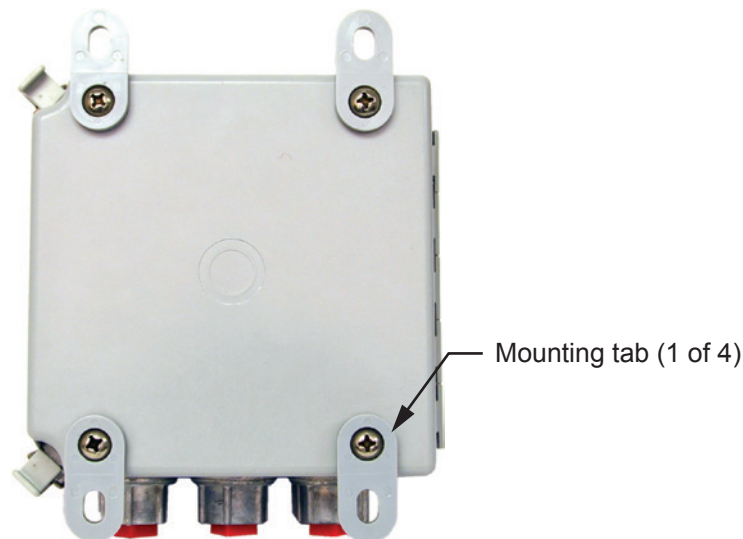

Figure 2.3—Tabs for mounting weatherproof TA-1000 Plus to a panel
1. Attach the plastic mounting tabs to the back of the device, as shown in Figure 2.3.
4. Insert the bolts through the back of the panel into the mounting tabs (Figure 2.3).